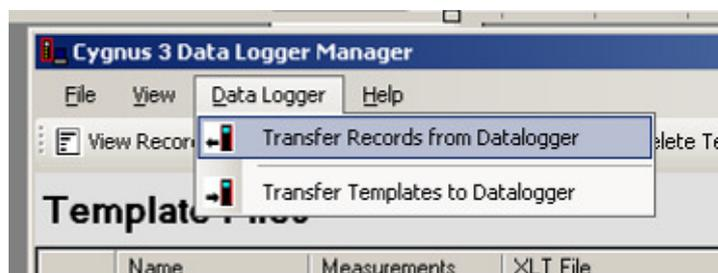

Fig. 11.11. Data Logger Menu Options.
2. Click on **Data Logger** in the menu bar (fig. 11.11)